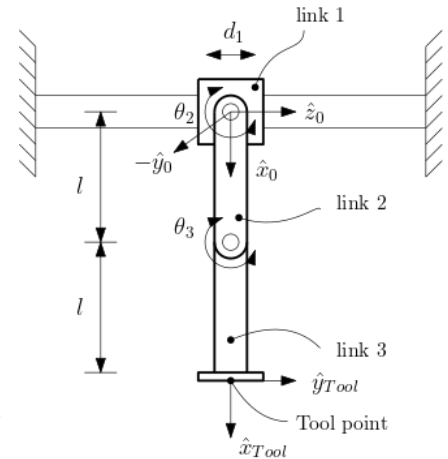

Figure 2: PRR robot for Qn.2
2. The position and orientation of {Tool} frame of the PRR robot shown in Figure 2 can be described by the transformation matrix: